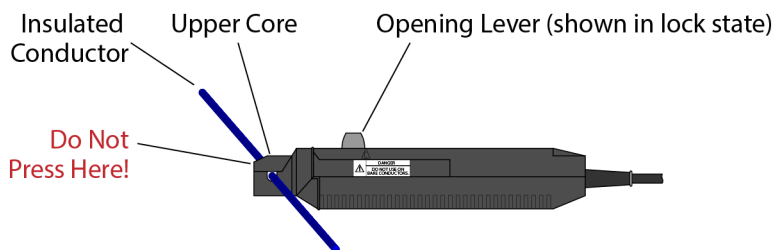

Figure 3 Use the Opening Lever
- 4 With the probe's sensor head around the insulated conductor to be measured, slide the Opening Lever of the probe into the **Locked** position as shown in Figure 3. While doing so, ensure that the **UNLOCK** indication disappears which indicates that the sensor head is properly closed. If the sensor head is not properly closed, accurate measurements will not be possible.